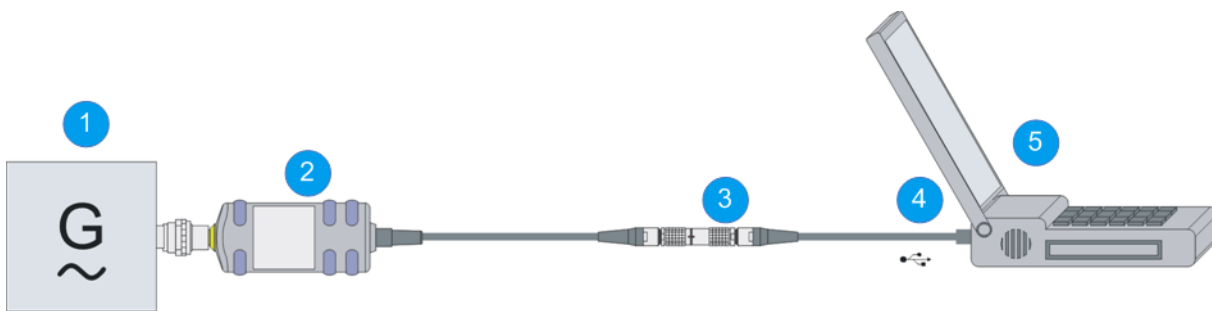

Fig. 4-2: Configuration with a passive USB adapter
1. Connect the cables as shown in figure 4-2: